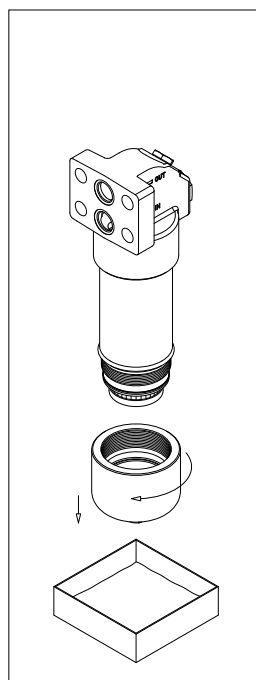

fig. 9
- (Fig. 9) Unscrew the bowl cover after placing a vessel to collect the operating fluid.